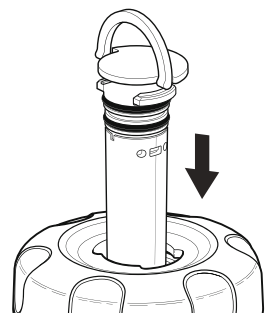

Figure 5.6 – Inserting Enhancement Tank Cartridge
5. Holding the new enhancement cartridge cap handle, insert the new cartridge into the filter's enhancement tank (see Figure 5.6).